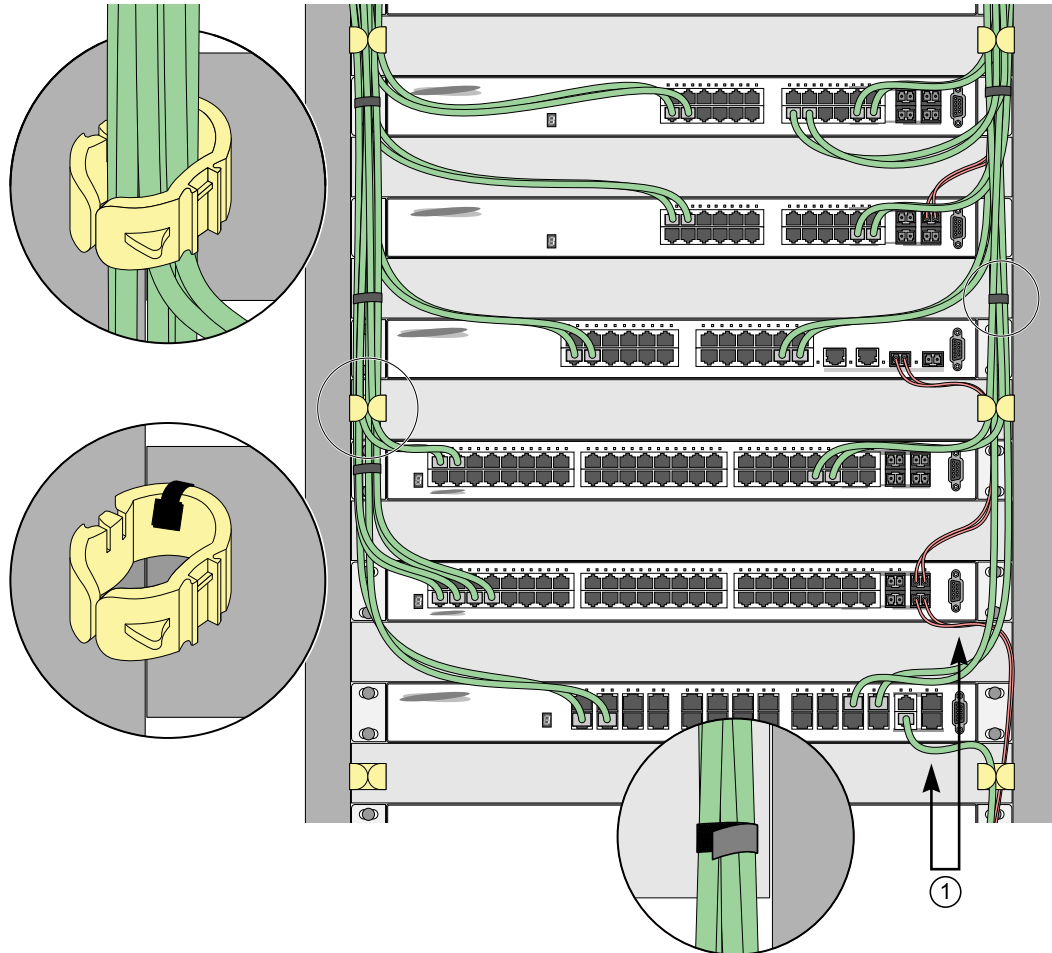

Figure 30: Properly Installed and Bundled Cable
- Provide enough slack, approximately 5 to 7.5 cm (2 to 3 in), to provide proper strain relief as shown in Figure 30 on page 42.
- When installing a patch panel using twisted pair wiring, untwist no more than 2.5 cm (1 in) of the cable to avoid radio frequency (RF) interference.